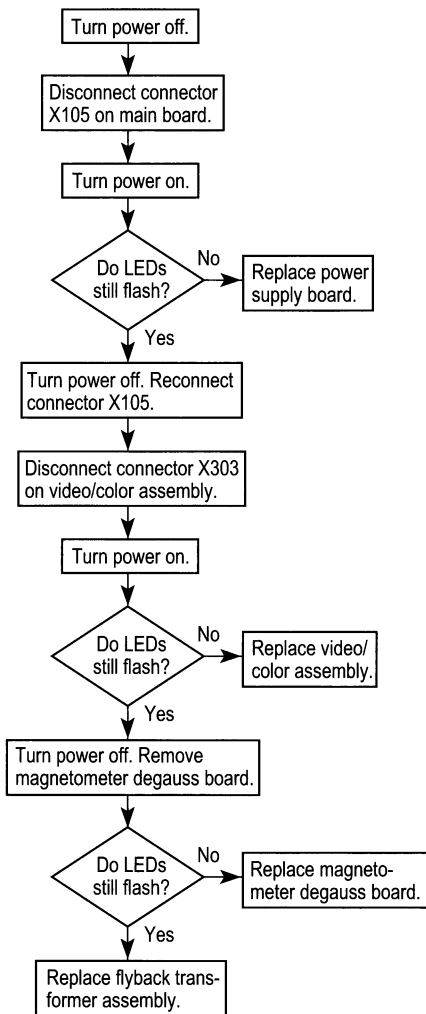

Figure 6 Power Supply Board Troubleshooting LEDs Flowchart
- LEDs 684 and 685 monitor a number of conditions (see Figure 6). Their normal state is on (static, not flashing).